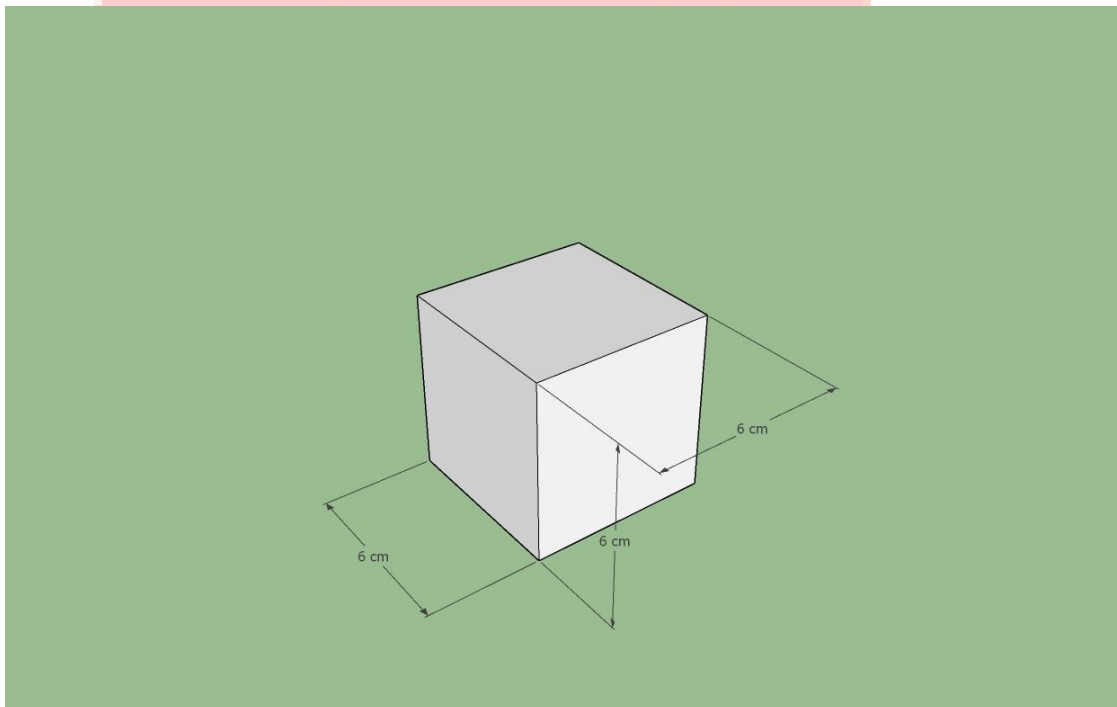

Figure 4: Thermocol block
- Cut out block of 6cm x 6cm x 6cm from the thermocol sheet. Figure 4 shows a block.